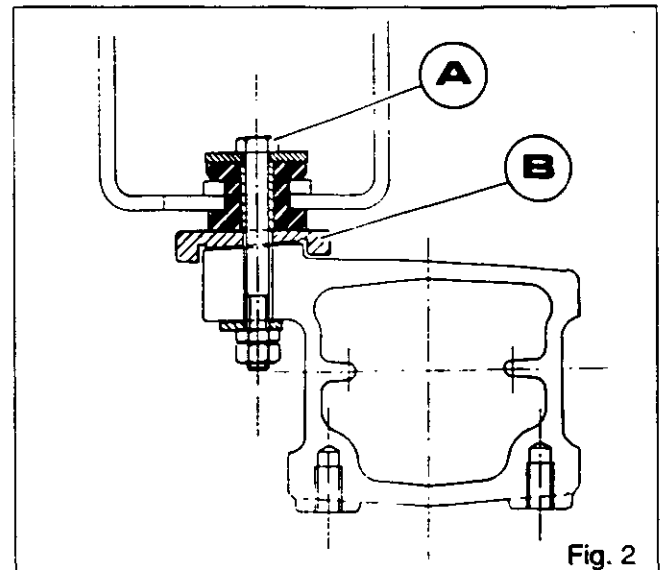
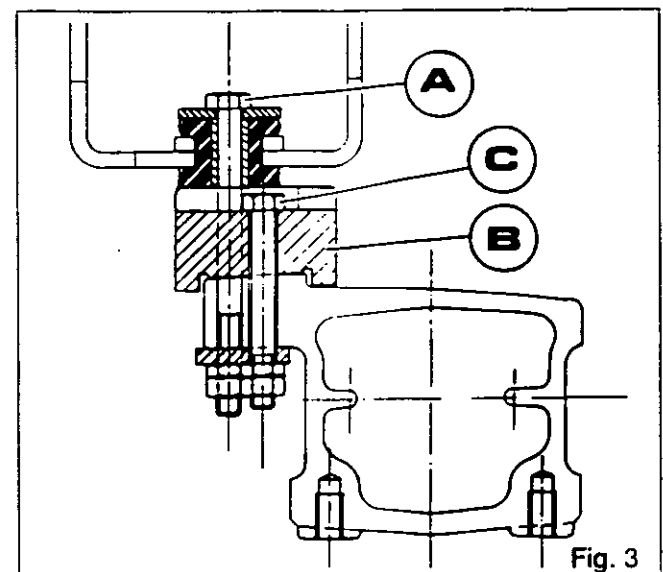

Fig. 2
Fig. 3
9. Remove the cab attaching bolts (**A**) (Low profile cab Fig.2) - (Hiline cab Fig.3).
11. Remove the spacer (**B**) (Fig.2 low profile cab).
**Note: Only for trumpet housing replacement on hiline cab tractors, remove bolts (A) and (C) and the spacer B (Fig.3).**